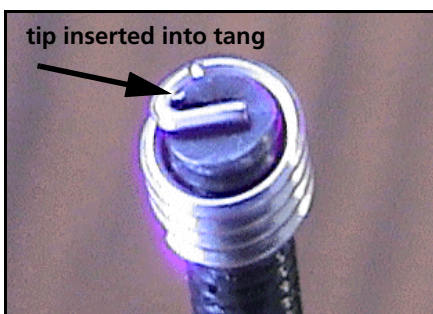

Figure 8: Zoomed in View
5. Turn the handle of the HeliCoil installation tool until the end of the prewinder is visible in the opening at the end of the tool. Place a HeliCoil at the end of the prewinder (with tang on top), inserting the prewinder tip (raised part at the end of the prewinder) into the tang of the HeliCoil insert. (See *Figure 8* for a zoomed in view of this; please note the prewinder was removed from the tool for illustration purposes).